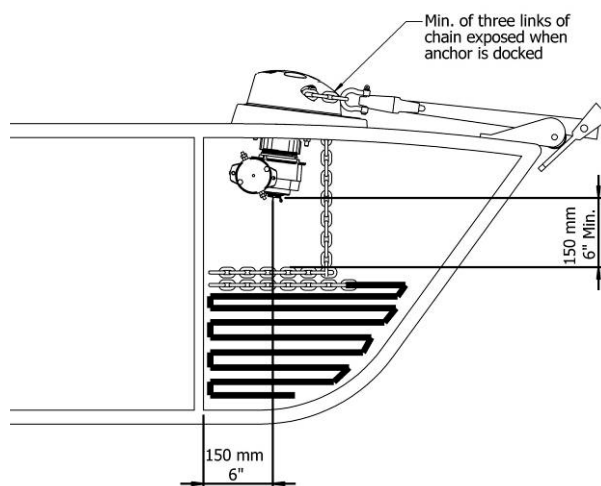

Figure 10 - Clearances in chain locker
- Make sure that at least three links of chain are exposed when the anchor is docked (see “Figure 10 - Clearances in chain locker” on page 14).